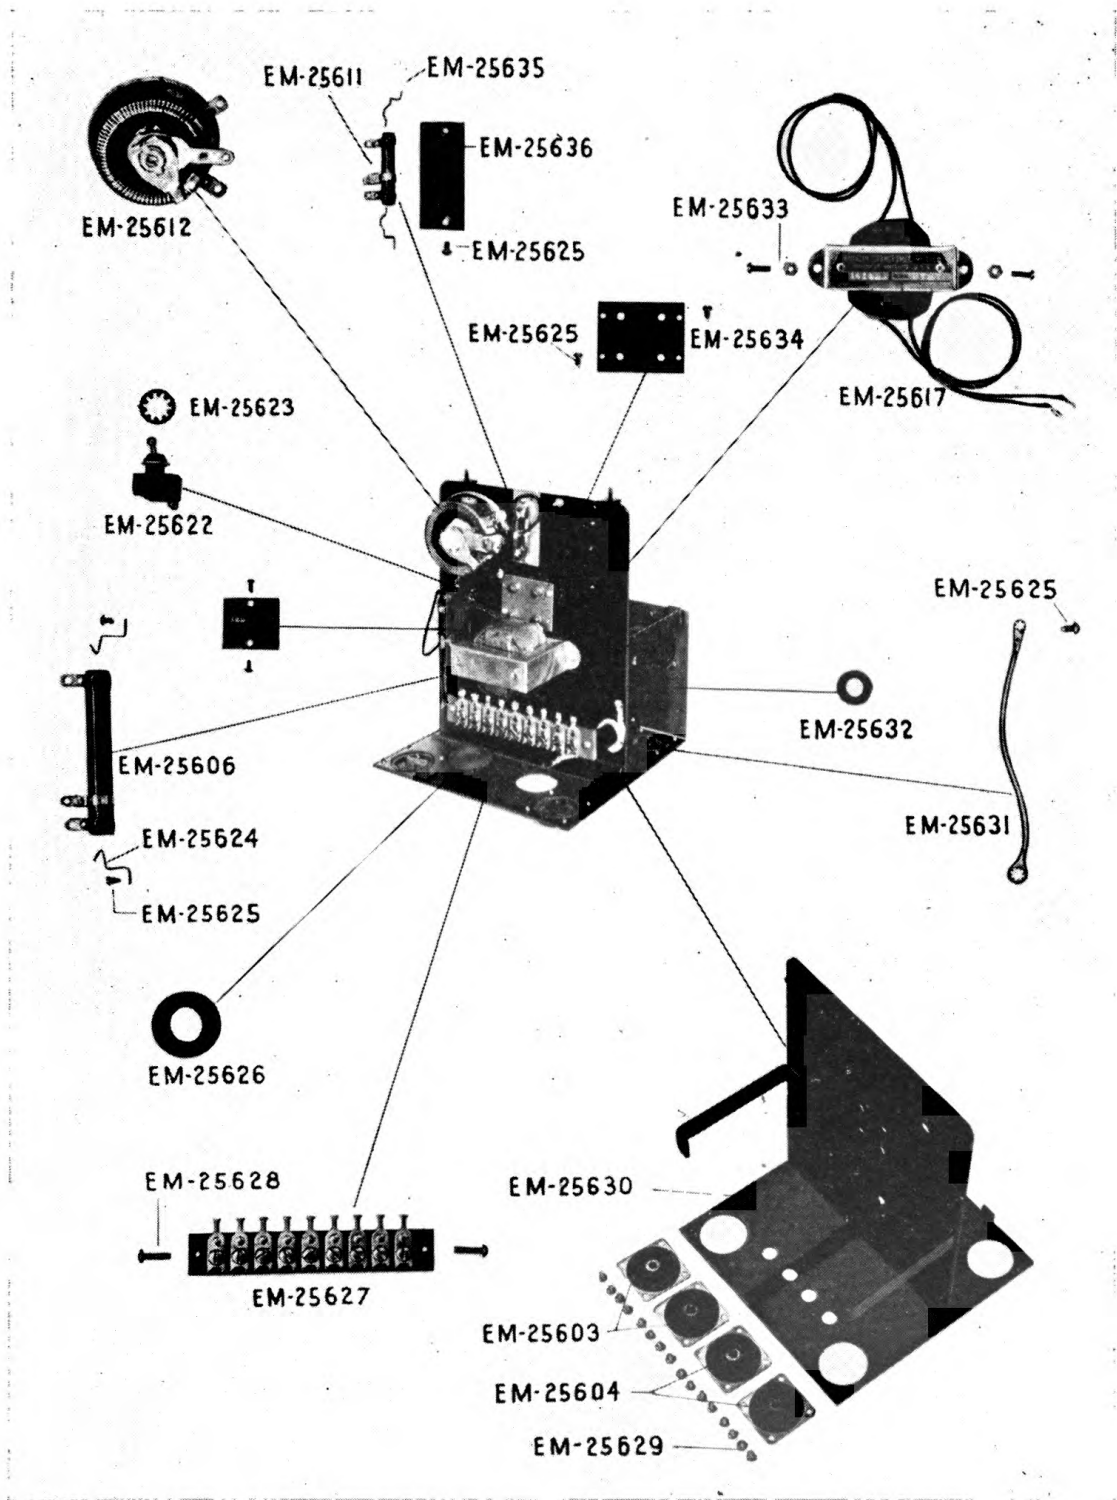

FIG. 22—Voltage Regulator Parts—(Cont'd)
- Figure 22 Voltage regulator parts continued.